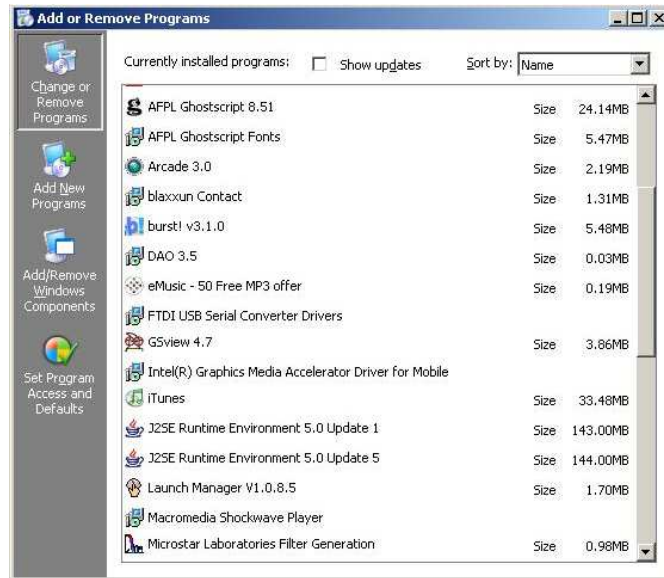

Figure 21: Add or Remove Programs
3. Double click on Add or Remove Programs, obtaining a screen like figure 21.
Figure 21 lists the FTDI drivers, so they are installed. Similarly, the Tcl/Tk program for the unit should be shown on the same list under *Syscomp*.
1. On the Add or Remove Programs list of figure 21, find the entry *System*. Double click on it to obtain the *System Properties* screen of figure 22.